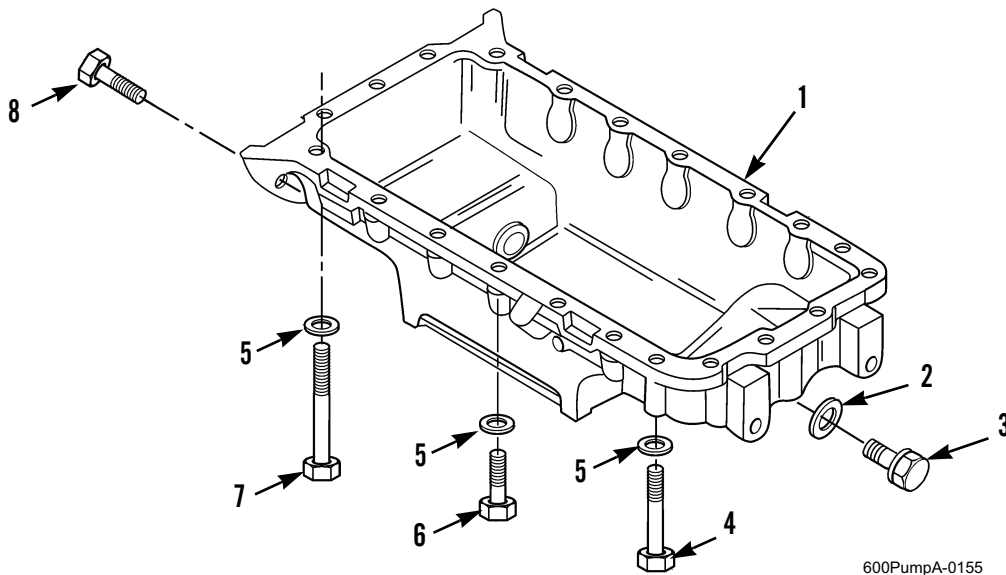

Figure 1. Engine Oil Pan.
1. Remove drain plug (Figure 1, Item 3) and sealing ring (Figure 1, Item 2) from front or rear of oil pan (Figure 1, Item 1) and drain engine oil. Discard sealing ring.
2. Remove two bolts (Figure 1, Item 4), three bolts (Figure 1, Item 7), 16 bolts (Figure 1, Item 6), 21 washers (Figure 1, Item 5), and four bolts (Figure 1, Item 8) from oil pan (Figure 1, Item 1) and engine block.
4. Partially reinstall two bolts (Figure 1, Item 4) at middle of oil pan (Figure 1, Item 1) to support oil pan.
5. Tap on oil pan (Figure 1, Item 1) to break silicone RTV compound seal and remove two bolts (Figure 1, Item 4) and oil pan from engine block.